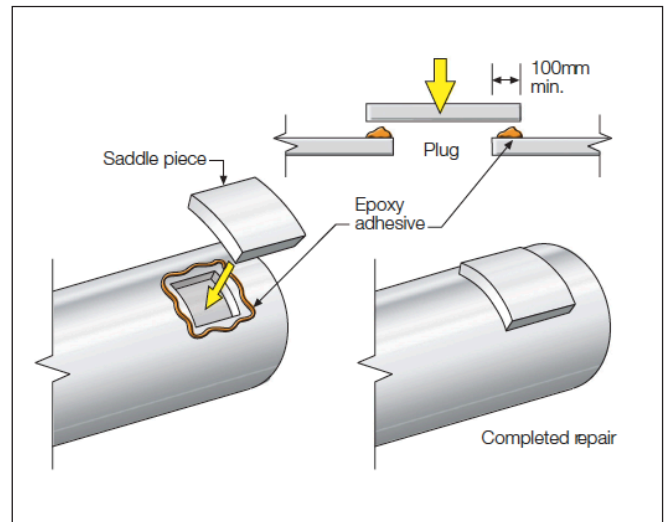

Figure 60 – Joining with unturned couplings
7. Position the saddle piece over the damage and ensure there is a seal formed by the epoxy, see Figure 60.